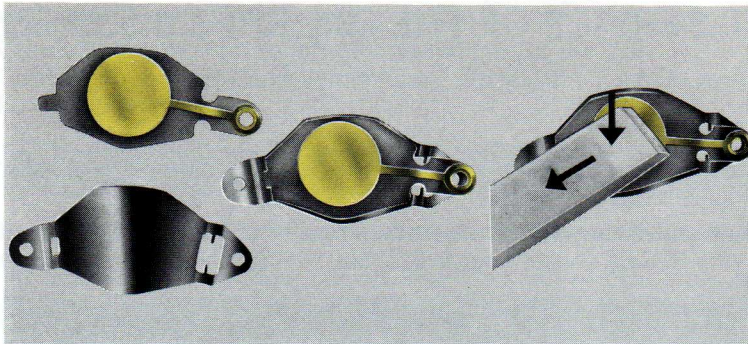

Fig. 6
- Press gently, with a leather buff, on the centre of the circuit and slide the circuit under the two protruding tongues of the bridge (Fig. 6).